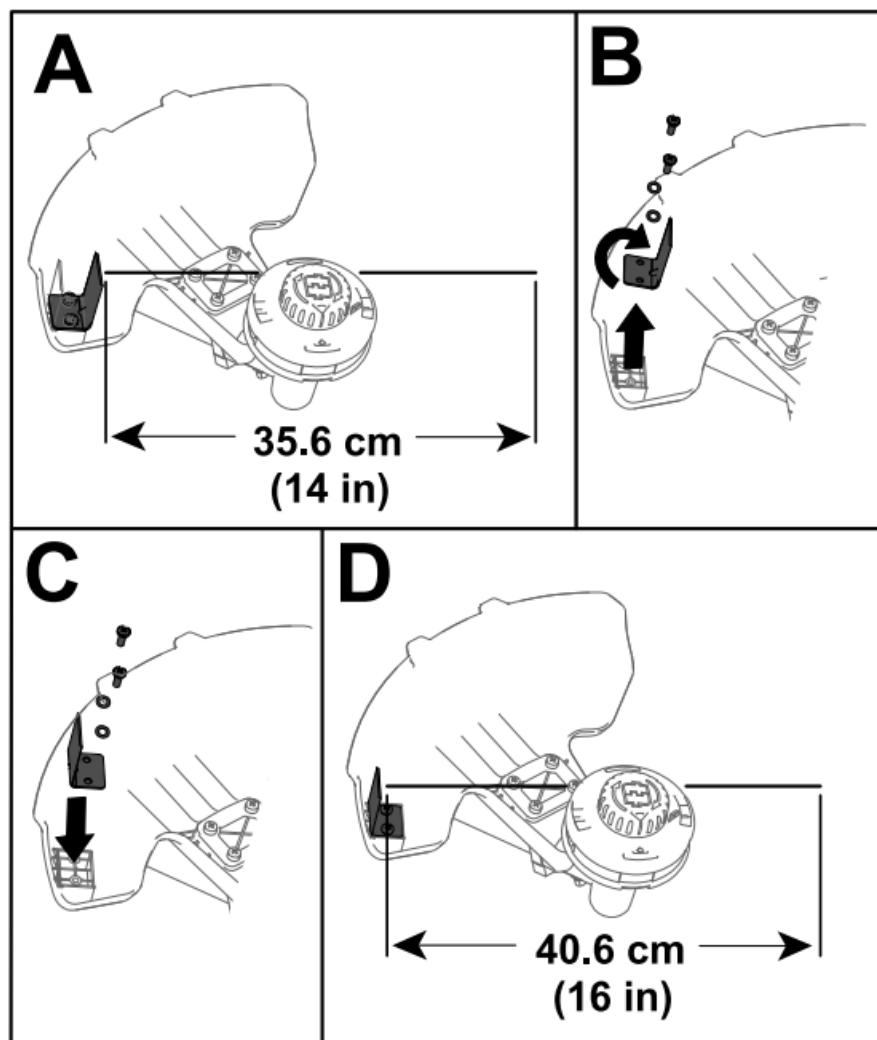

Figure 10
The trimmer comes from the factory with a cutting swath of 36.6 cm (14 inches) as shown in A of Figure 10. Refer to the following instructions to adjust the swath to 40.6 cm (16 inches) as shown in D of Figure 10.
1. Remove the swath blade from the bottom of the guard by removing the 2 screws holding it in place using the provided Allen wrench (B of Figure 10) and rotate the swath blade 180°.
2. Once the swath blade is rotated, install it onto the guard using the 2 screws previously removed (C of Figure 10).